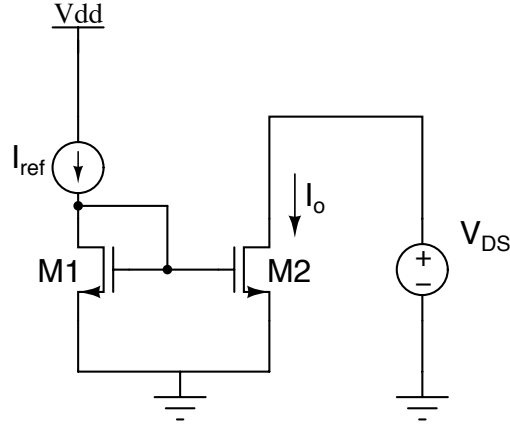
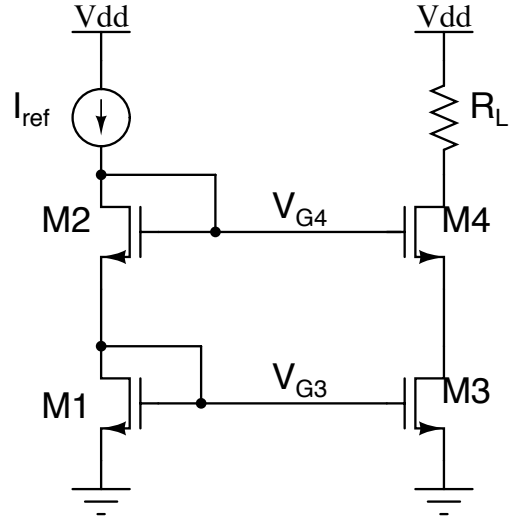
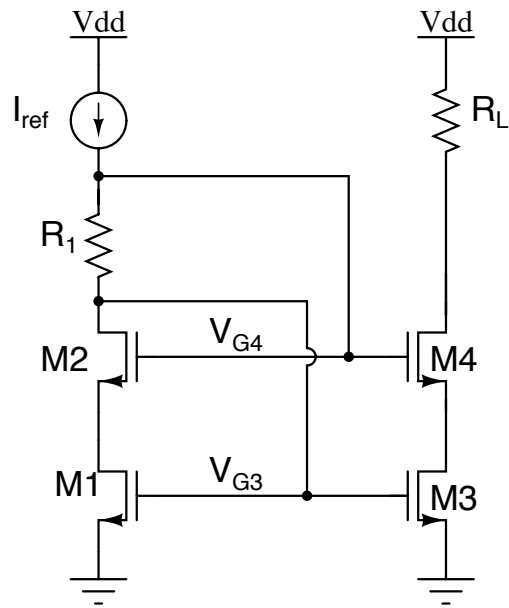

Figure 5: Basic Current Mirror Configuration
Figure 6: Cascode Current Mirror Configuration
Figure 7: Self Biased Current Mirror Configuration 1
- Consider the basic current mirror configuration shown in Fig5. For a fixed V_{DS} voltage, calculate the actual current at the drain of M2 by considering g_{ds} of M2. What is the error of mirrored current ($\frac{\Delta I}{I} = \frac{I_o - I_{ref}}{I_{ref}} * 100$)? This is the reason why high output impedance ($\frac{1}{g_{ds}}$) is preferred.
- Calculate the output impedance of the cascode current mirror configuration shown in Fig6 in terms of small signal parameters. According to your calculations, size the transistors properly to get 1%, 10% accuracy from the cascode current mirror for $V_{GS} - V_{th} = 200 \text{ mV}$, $I_{ref} = 1 \text{ mA}$ and $R_L = 500\Omega$.
- Plot the error of mirrored current vs V_{DS} for the current mirrors in Fig5 by sweeping V_{DS} , in Fig6 by sweeping the drain voltage of M4 and observe when the error is largest. The compliance is the smallest voltage at the output of the current source. Calculate the compliance of the realized current source.
- What is the minimum voltage required at the gate of M4 to have all devices in saturation? Compare it against the voltage used in Fig6. Fig 7 is one of the ways to realize this voltage at the gate of M4. What should be the voltage drop on R_1 and calculate the required R_1 value. Size the transistors properly to get 1% accuracy from the cascode current mirror for $V_{GS} - V_{th} = 200 \text{ mV}$, $I_{ref} = 1 \text{ mA}$ and $R_L = 500\Omega$. Indicate the regions of operation of the transistors in Fig7.